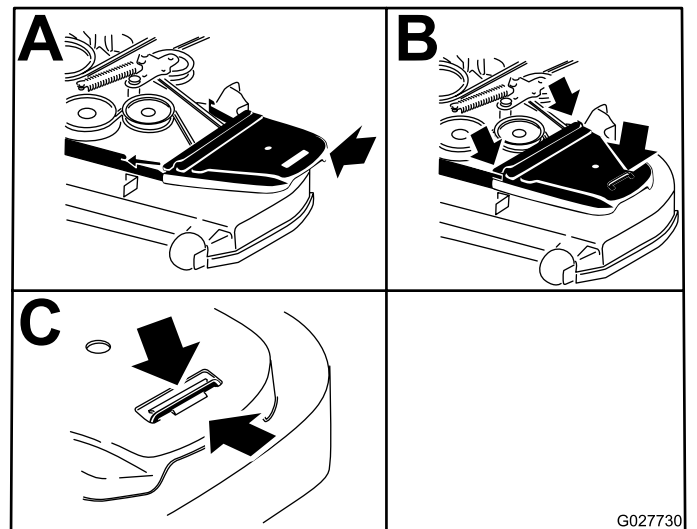

Figure 100
12. Install the belt covers (Figure 100).